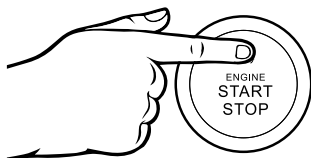

Figure 8: Electric Start Button - PUSH
7. Push and hold the engine start push button for 1 second and release (see Figure 8). The engine will automatically set the choke and begin the start sequence.